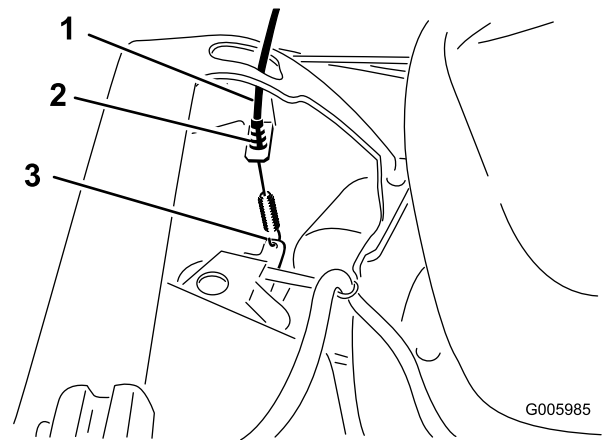

Figure 7
4. Route the self-propel drive cable down the inside of the handle, thread the cable through the opening on the left hand side of the housing, and attach the cable end (Figure 7) (Self-propel model only).